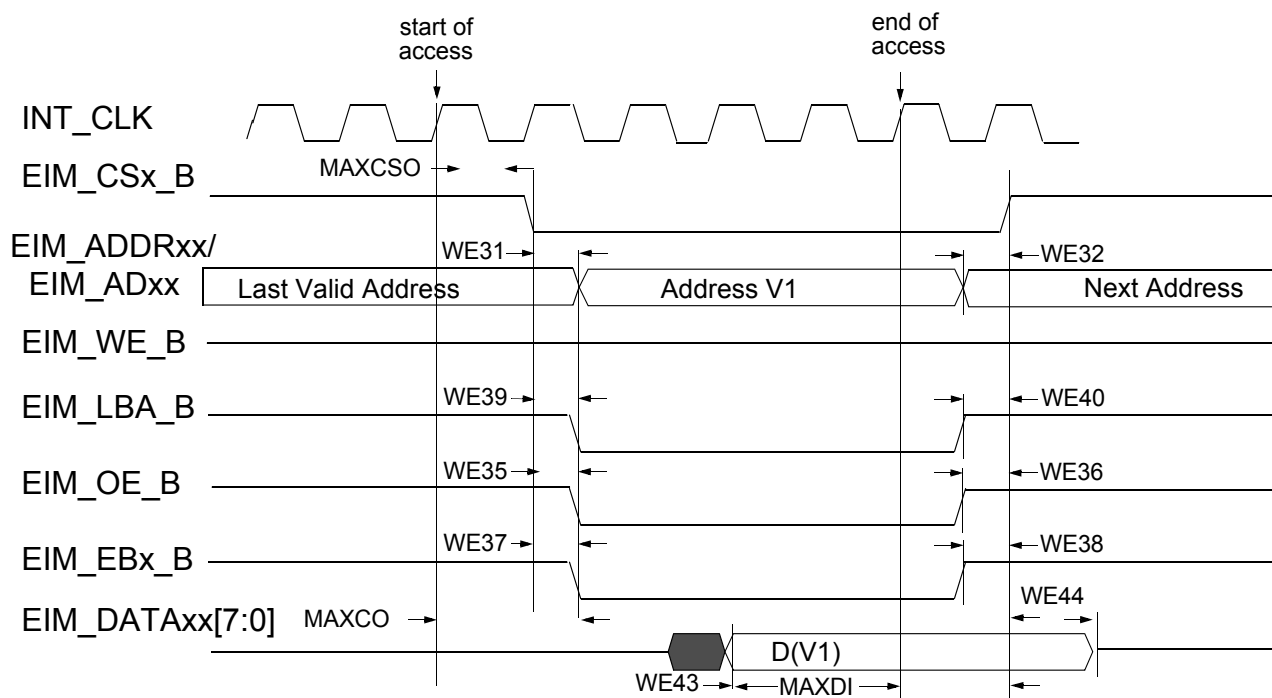
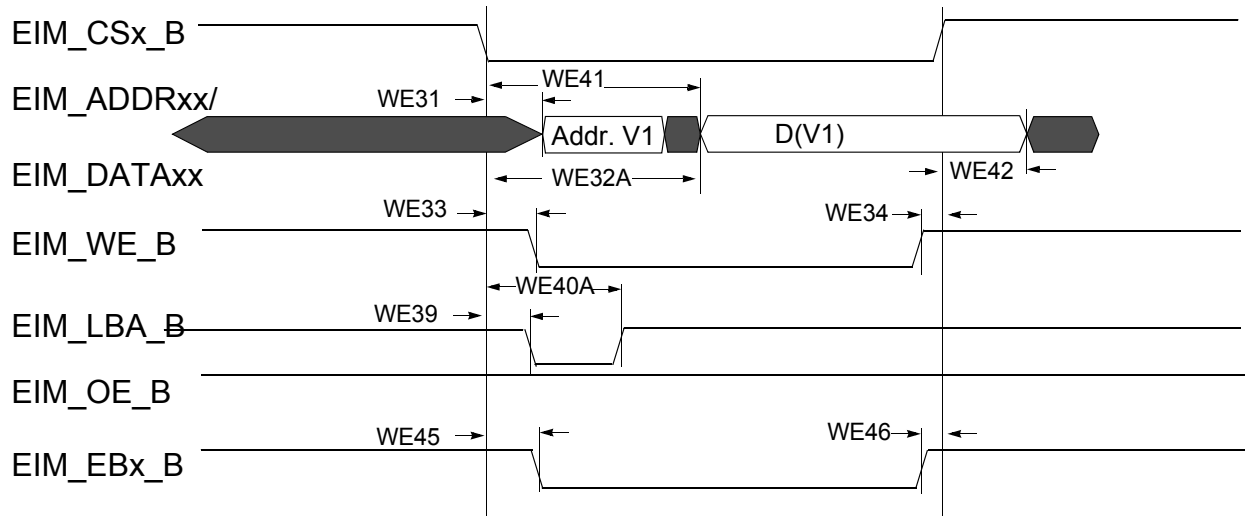
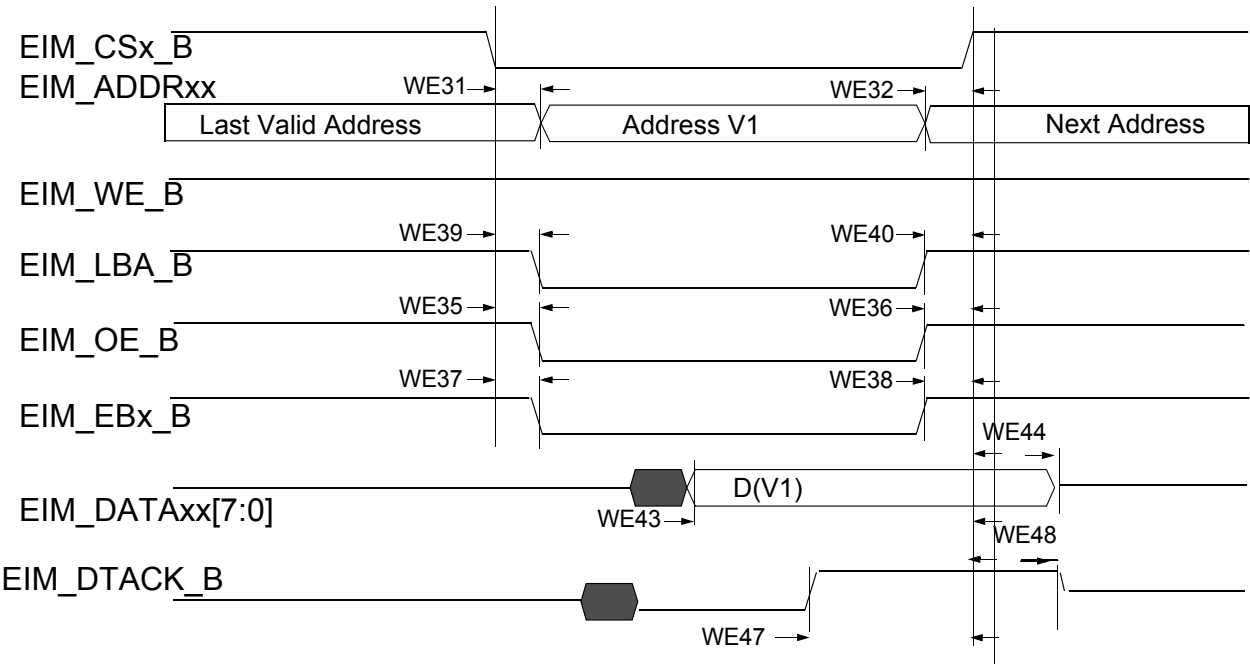

Figure 15. Asynchronous Memory Read Access (RWSC = 5)
Figure 18. Asynchronous A/D Muxed Write Access
Figure 19. DTACK Mode Read Access (DAP=0)
Figure 15 through Figure 19, and Table 40 help to determine timing parameters relative to the chip select (CS) state for asynchronous and DTACK EIM accesses with corresponding EIM bit fields and the timing parameters mentioned above.
Asynchronous read & write access length in cycles may vary from what is shown in Figure 15 through Figure 18 as RWSC, OEN and CSN is configured differently. See the *i.MX 6ULL Reference Manual (IMX6ULLRM)* for the EIM programming model.